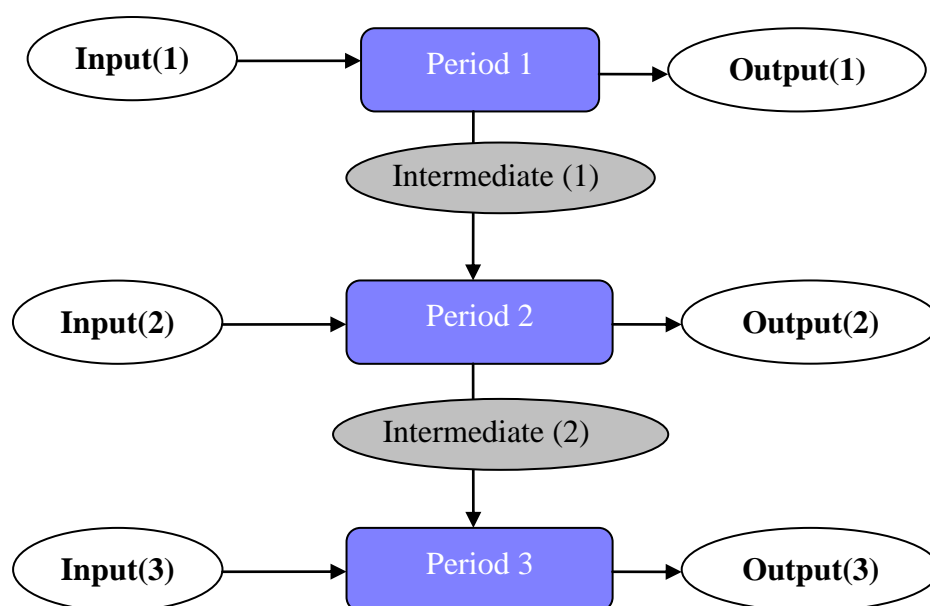

Figure 3-4 Structure of the dynamic model
- c) Define the Sub-processes of the Network through the “Define” button (Figure 3-4);
three periods for dynamic model. Figure 3-4 shows the links between periods. Note that in MaxDEA, the intermediate in period 1 is treated as the link between period 1 and 2, the intermediate in period 2 as the link between period 2 and 3, and the intermediate in period 3 is not included in the dynamic model.